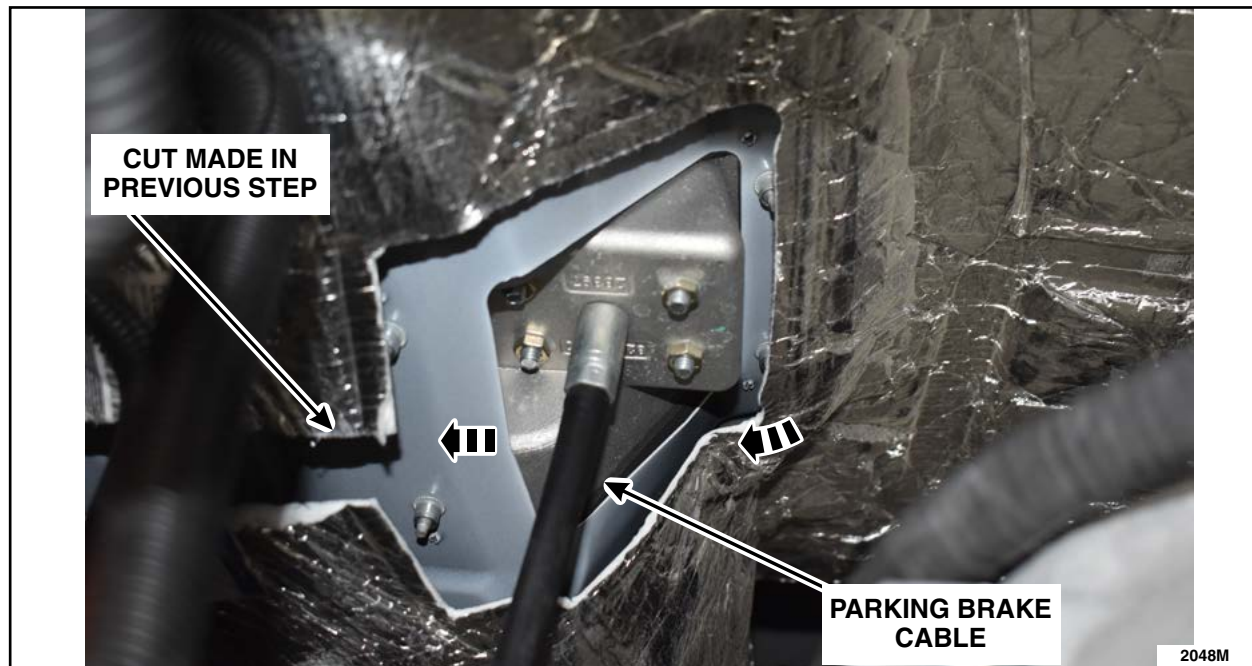

FIGURE 24
5. On the driver's side, position the shield around the parking brake cable and position the shield in place. See Figure 24.